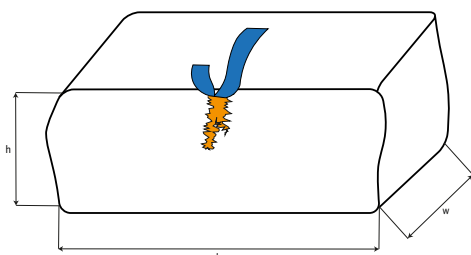

Fig. 2 Fixing of the damaged wrapping with a tape
3.5 In the unlikely case of damage to the wrapping, the damaged area shall be fixed with tape (Figure 2) or replaced.
8.4 In the unlikely case of a damage to the wrapping, the damaged area is either fixed with tape (see Figure 2) or is fully replaced.